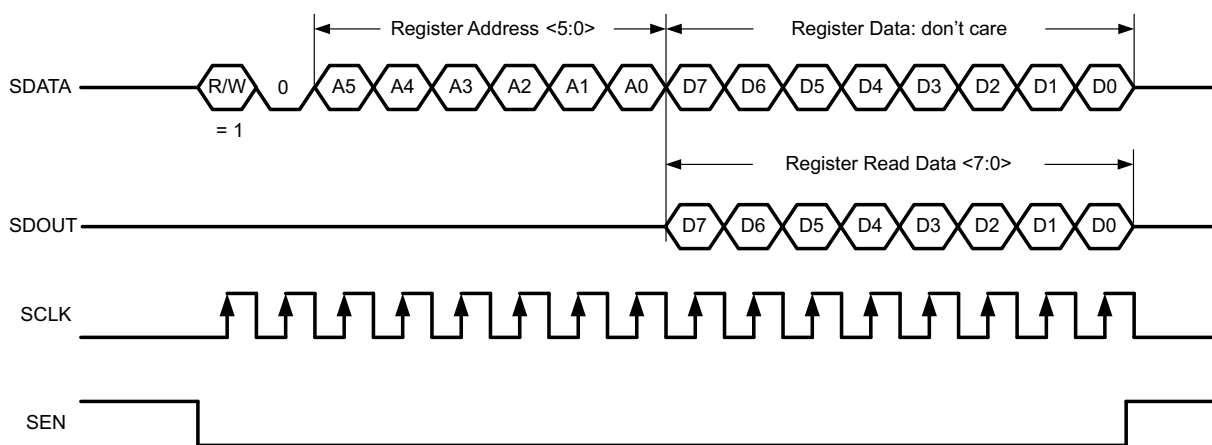
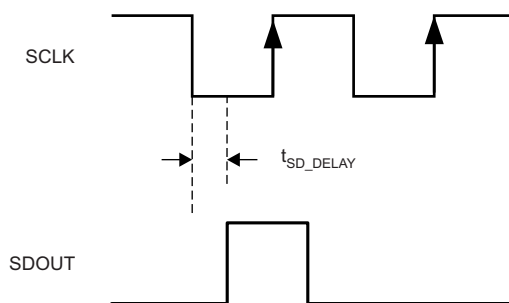

图 51. Serial Register Readout Timing Diagram
图 52. SDOOUT Timing Diagram
2. Write the register address on bits A5 through A0 whose contents must be read. See 图 51.
When serial registers are enabled for writing (when bit A7 of the 8-bit address bus is '0'), the SDOOUT pin is in a high-impedance mode. If serial readout is not used, the SDOOUT pin must float. 图 51 shows a timing diagram of this readout mode. SDOOUT comes out at the SCLK falling edge with an approximate delay (t_{SD_DELAY}) of 20 ns, as shown in 图 52.